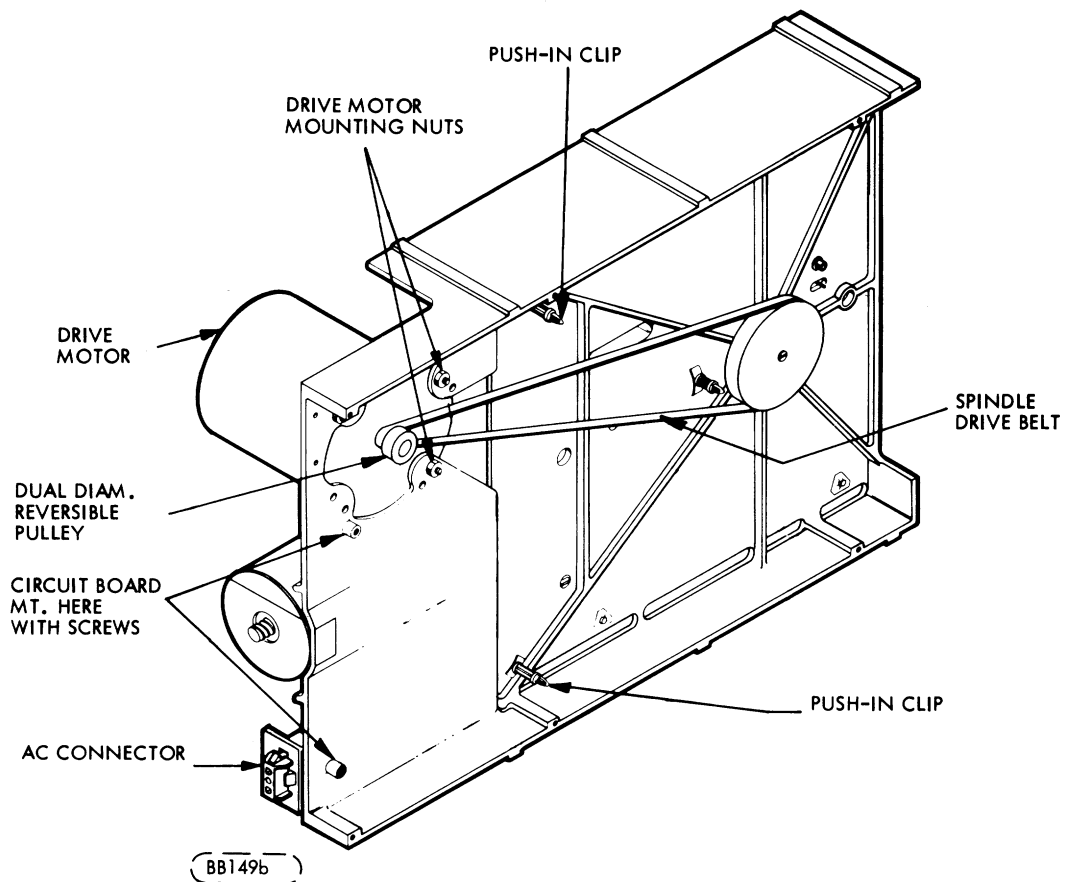

FIGURE 6-12. BASE CASTING ASSEMBLY
- d. Remove two screws from printed-circuit board adjacent to connector J1 (Figure 6-12).
- e. Remove PWA by detaching it from the two push-in clips shown in Figure 6-12.
- c. Remove AC connector from bracket. (Figure 6-12)
- d. Remove spindle drive belt (Figure 6-12).
- e. Remove three (3) nuts securing drive motor (Figure 6-12).